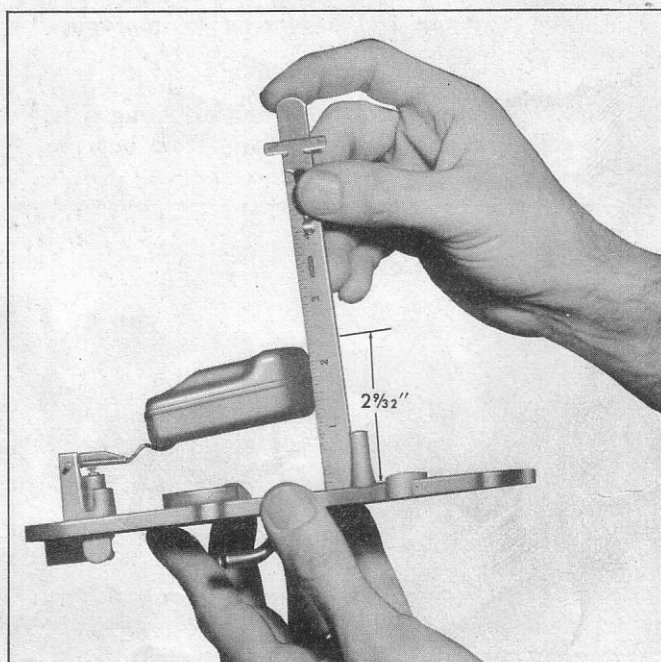
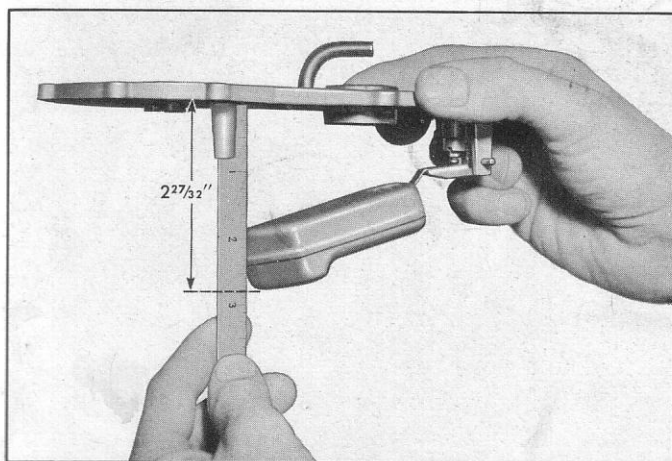

Fig. 77—Checking Float Level
Fig. 78—Checking Float Drop
6. Check fuel reservoir float settings before positioning cover to fuel meter body. Float level (fig. 77) should be $2\frac{9}{32}$ inches while float drop (fig. 78) should be $2\frac{27}{32}$ inches. Bend float arms or tang respectively to make these adjustments.